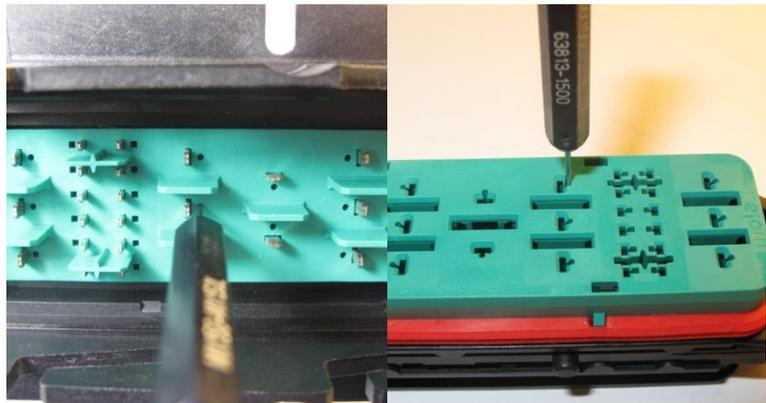

Figure 4.41: Terminal Removal Method
Figure 4.41 illustrates the method of removal of the Female Receptacle Terminal and the Male Blade Terminal from the respective connector housing assemblies.
- Insert the service tool as per step 1 Figure 4.41.